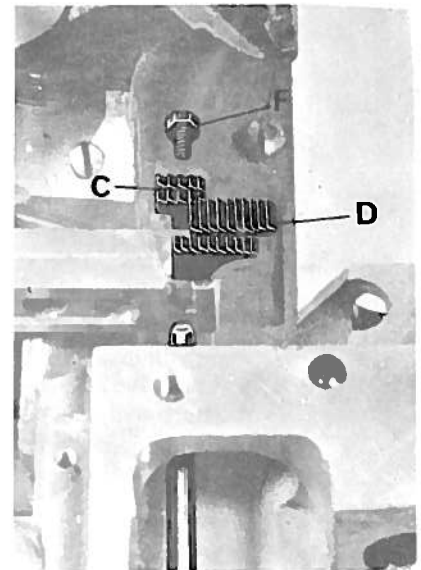

fig.14
### 9. Fitting and adjusting feed dogs (figs. 14 and 15)
- Fit the rear feed dogs C and D (fig. 14) and match the feed dog slides.